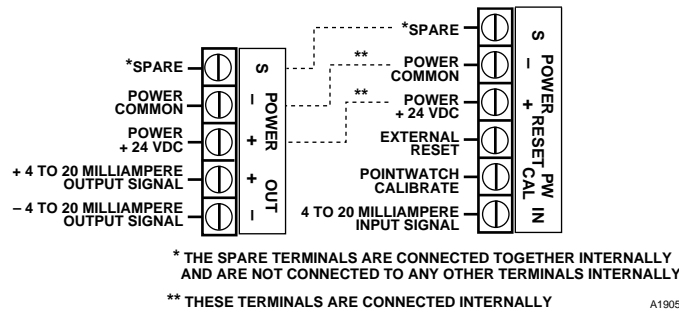

Figure 6—Field Wiring Terminals, Transmitter without Relays
- Figure 6 — Infiniti Field Wiring Terminal without Relay Option